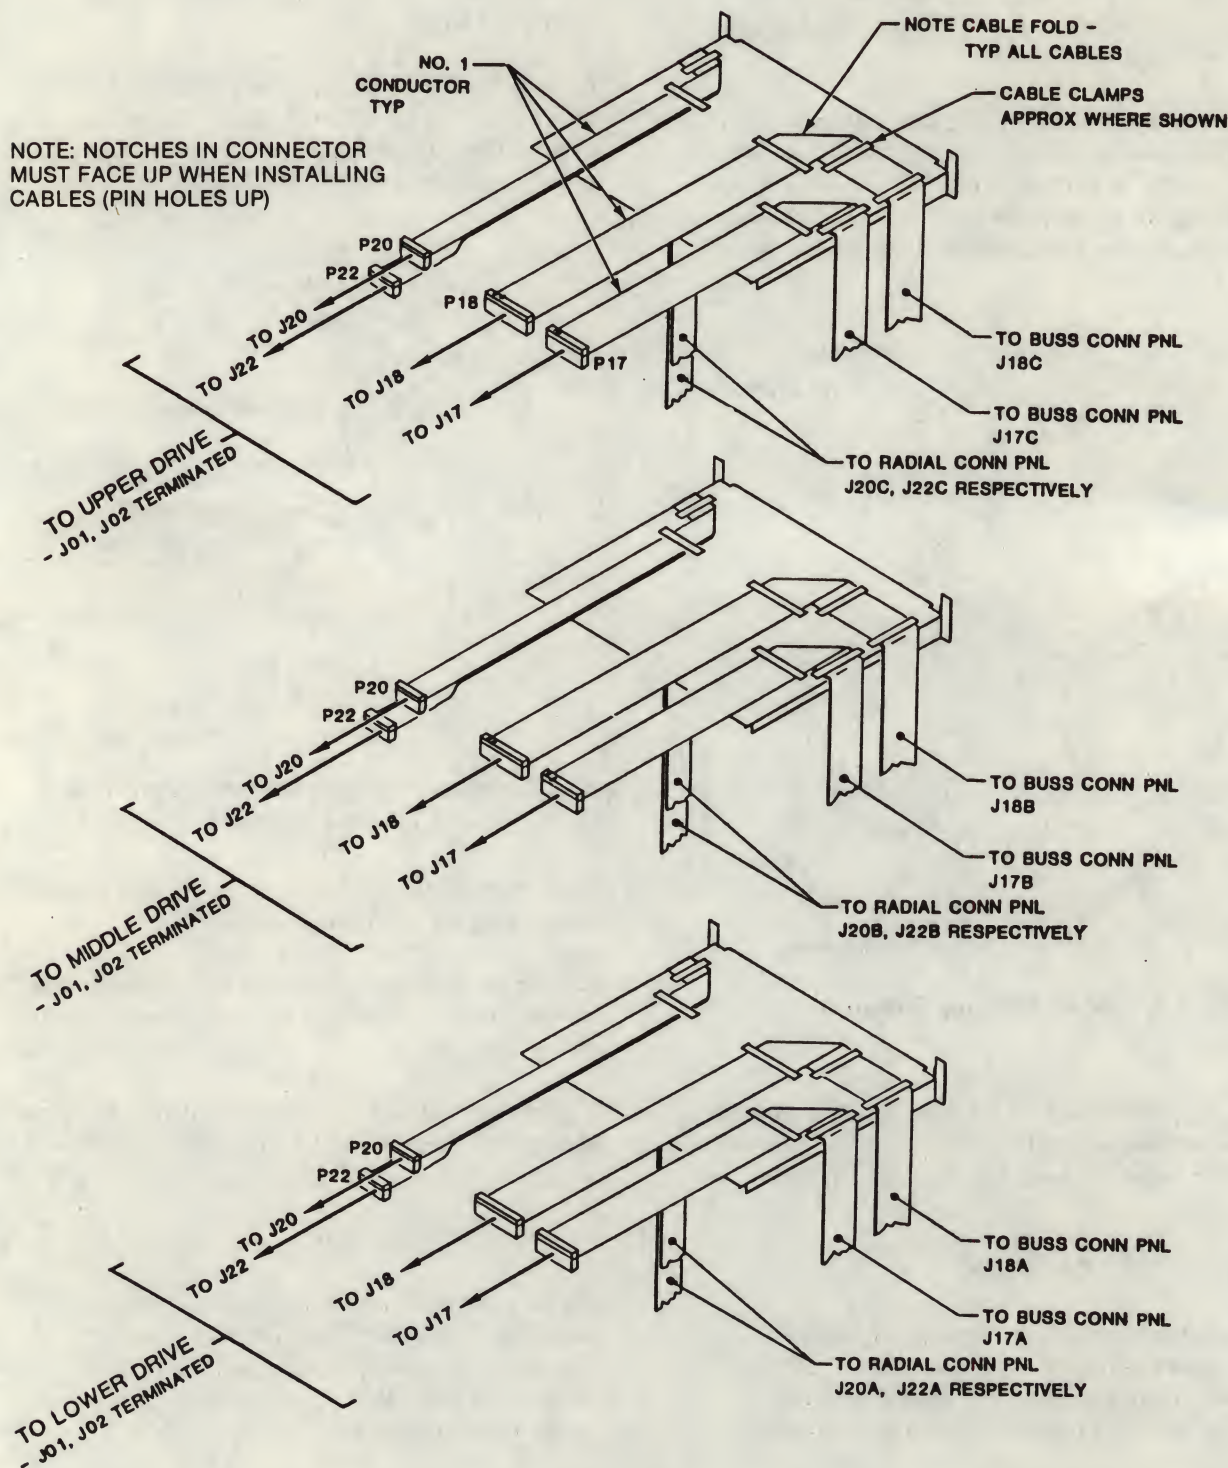
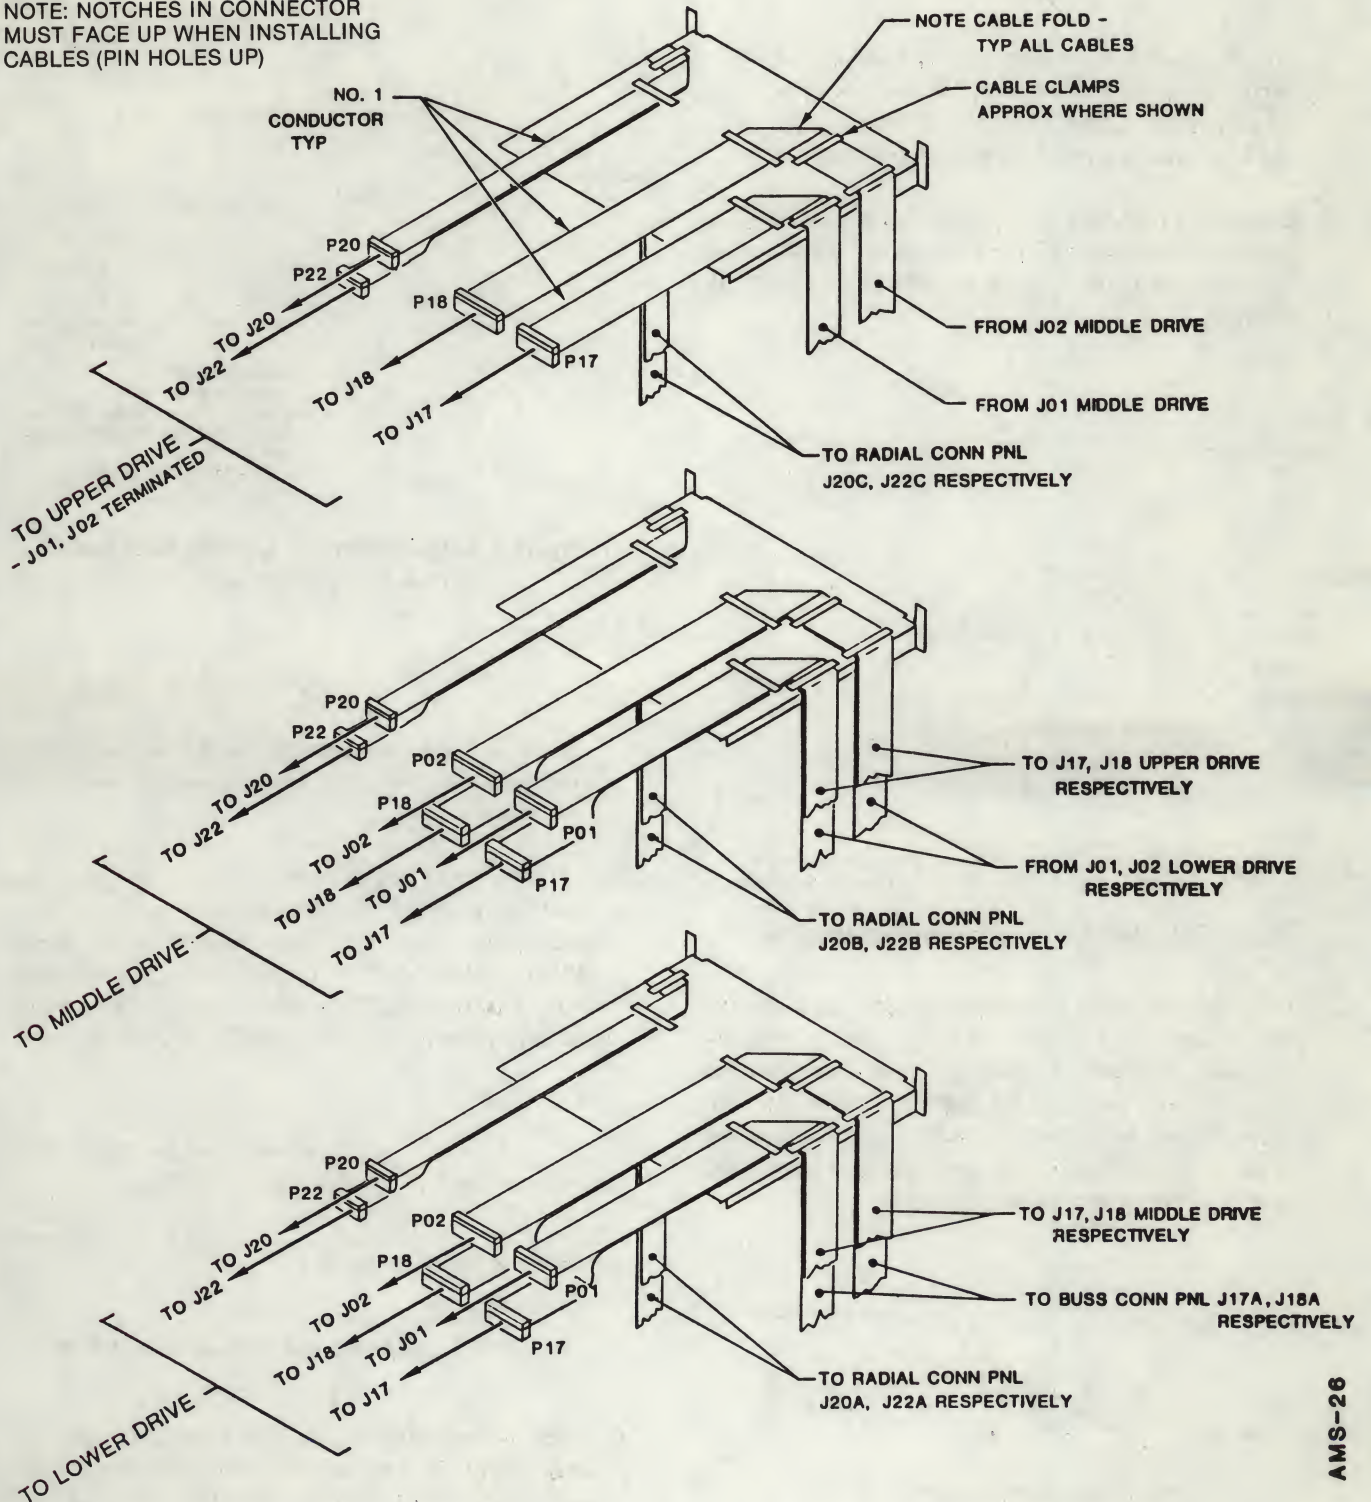

Figure 7-5. Star Cable System
Figure 7-6. Daisy Chain Cable System
10. If cables are not installed in the cabinet, but were purchased separately, route the cables onto the cabinet support tray as shown in Figure 7-5 or Figure 7-6. Install cable clamps as shown.
Fold cables as shown in Figures 7-5 or 7-6 to provide a neat cable configuration between the cable support tray, clamps and connector panels.